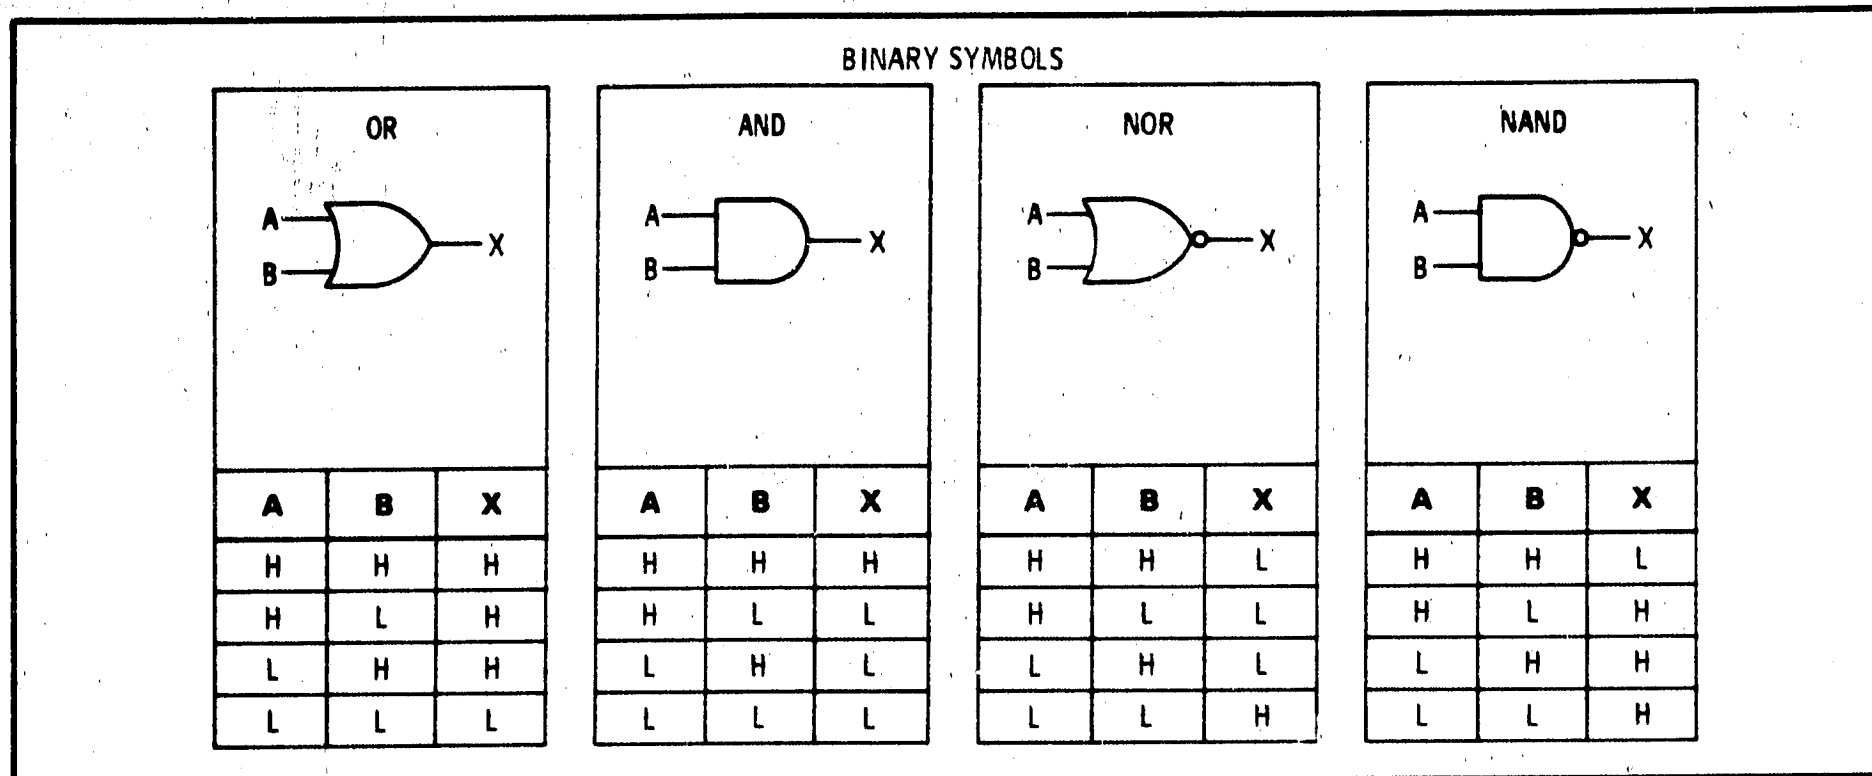

Figure 8-1. Binary Symbols
**8-20. Introduction.** The binary circuits and symbols used in this manual are shown in Figure 8-1 Binary Symbols and 8-10 Schematic Diagram Notes. This instrument uses three different families of logic circuits: TTL, ECL, and EECL. Most of the logic devices used in this instrument are TTL; there are notes on the Service Sheets that indicate what families the non-TTL devices belong to. Figure 8-10 shows the voltage levels that are associated with each family and the effect that an open and a ground has on each family.
**8-21.** In general, binary signals that are active-low are indicated with an L in parenthesis (e.g., CLOCK(L) indicates a clock signal that is active-low). Active-high signals are indicated with an H in parenthesis. A circle at an input indicates that it is active-low or triggers on a low-going edge; a circle at an output indicates inversion or that the output is active-low. Active-high inputs, inputs which trigger on a high-going edge, and active-high out-